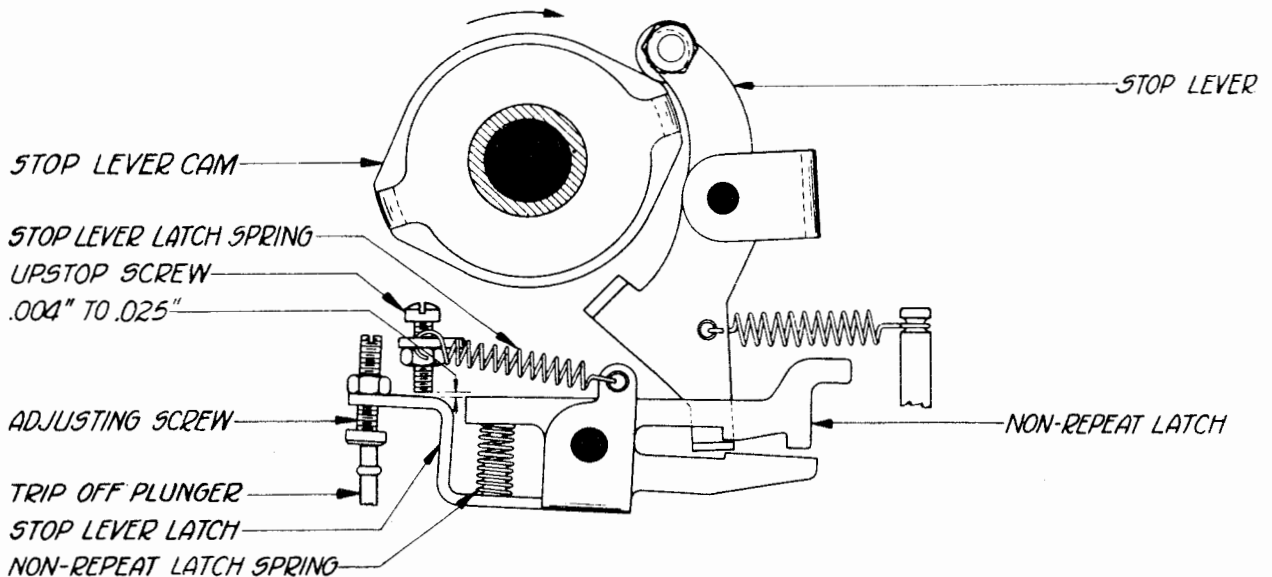

Figure 8
2.18 Stoplever-latch Upstop Screw: With any keylever held depressed, there should be a clearance of minimum 0.004 inch, maximum 0.025 inch, as indicated in Figure 8, between the upstop screw and the stoplever latch. Check all keylevers. See Figure 8.